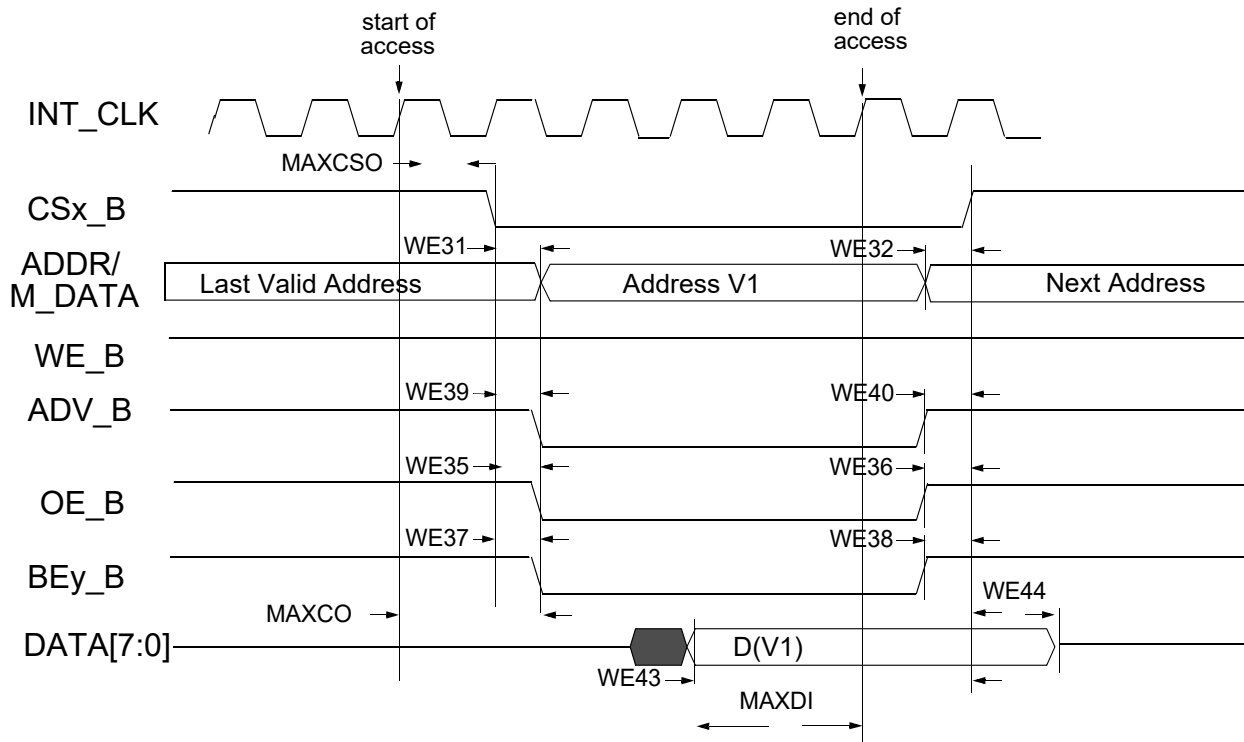
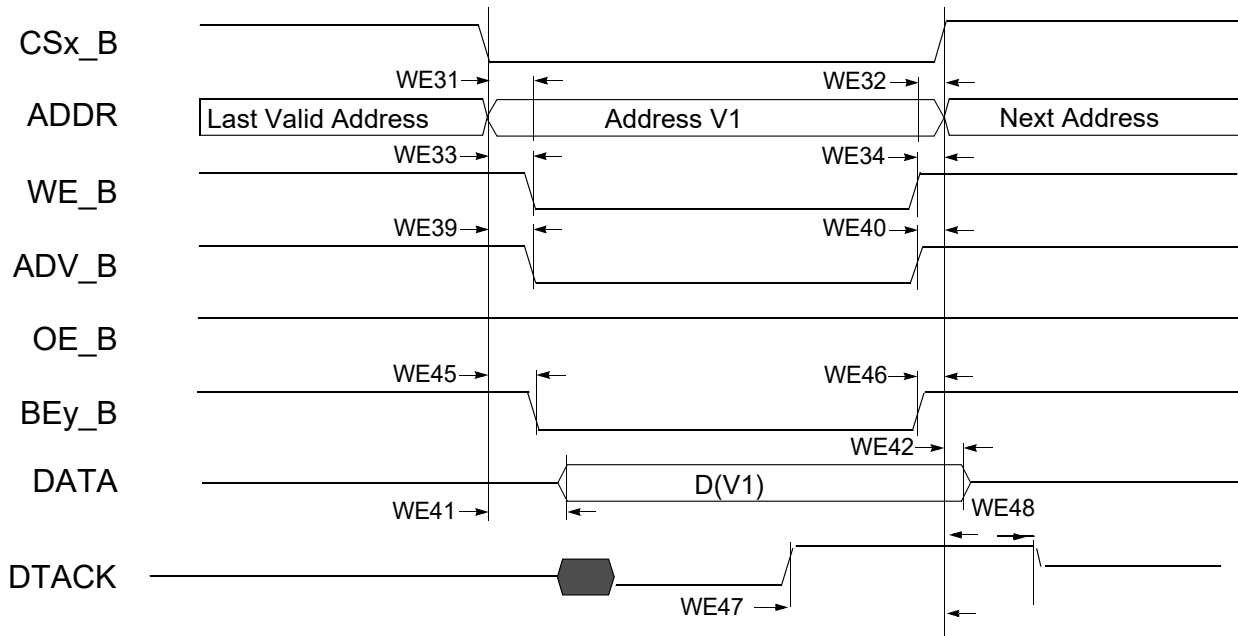

Figure 22. Asynchronous Memory Read Access (RWSC = 5)
Figure 27. DTACK Write Access (DAP=0)
Figure 22 through Figure 27, and Table 42 help to determine timing parameters relative to the chip select (CS) state for asynchronous and DTACK EIM accesses with corresponding EIM bit fields and the timing parameters mentioned above.
Asynchronous read and write access length in cycles may vary from what is shown in Figure 22 through Figure 25 as RWSC, OEN, and CSN is configured differently. See i.MX53 reference manual for the EIM programming model.